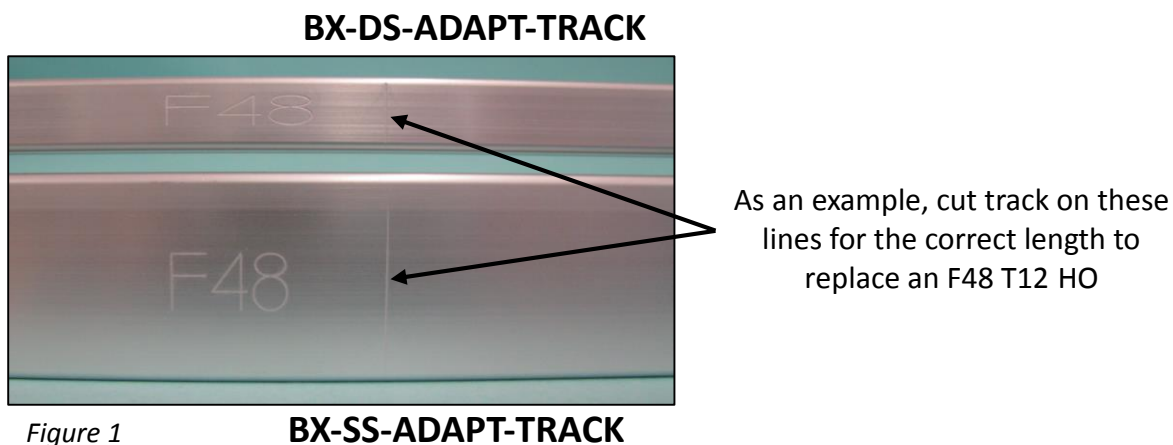

Figure 1
2.4.1 The back of each track is marked with lines to indicate the correct length at which to cut the track for other length fluorescent lamps (Figure 1)